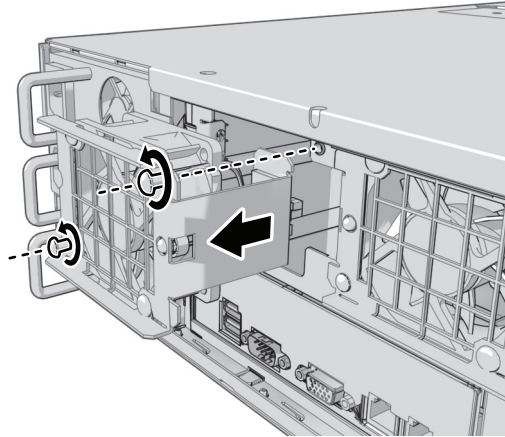

Figure 2. Replacing a CPU Fan
1. Turn the two captive thumbscrews counterclockwise to remove the failed rear-chassis fan (refer to Figure 2).